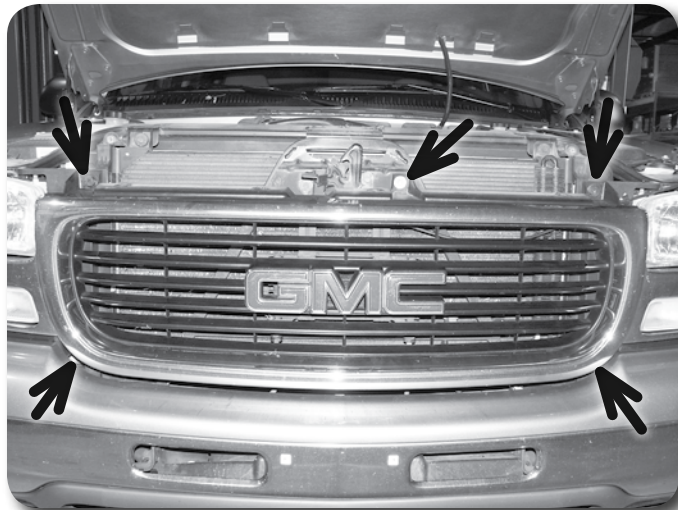

Figure 2
3. Remove the grill. Four Phillips head fasteners are located at the four corners of the grill face that require a quarter turn to release **Figure 2**. Remove the bolt at the top-center of the grill. Remove the grill from the vehicle by carefully pulling out the middle outside edges that are clipped in place.